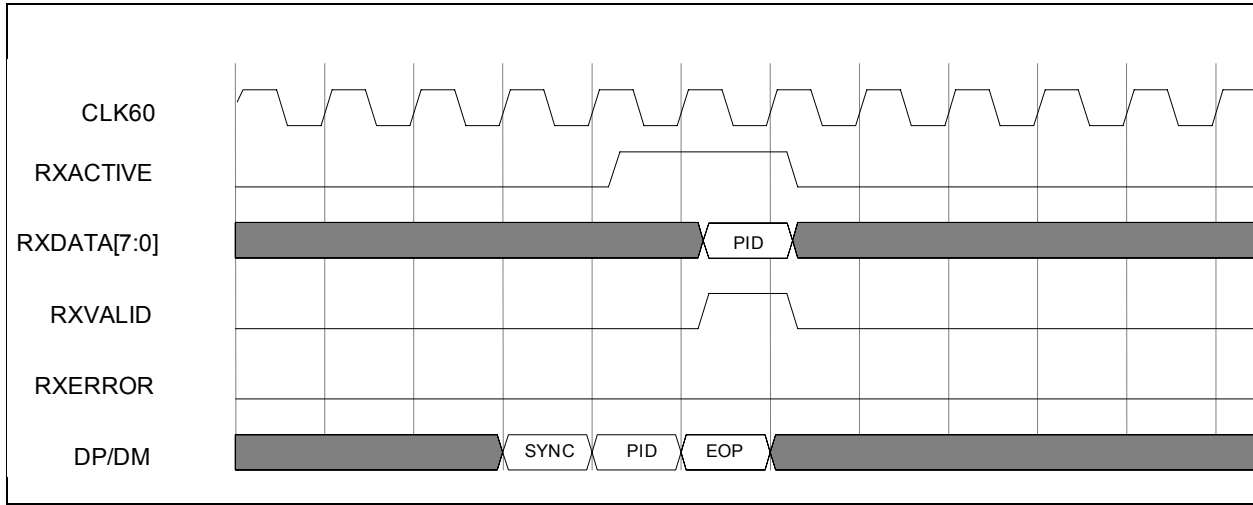
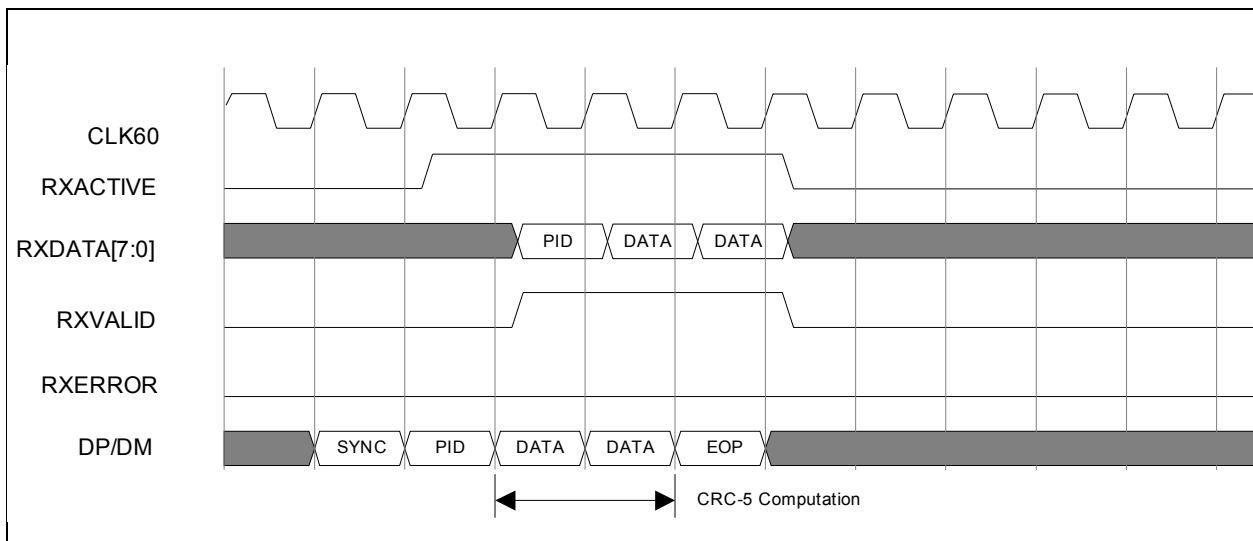
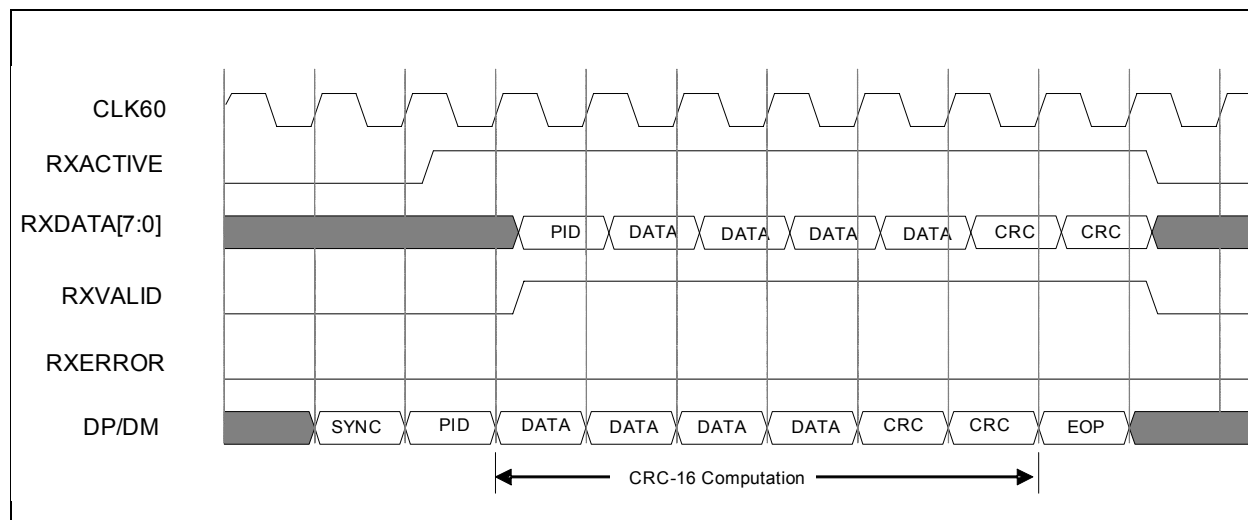

Figure 7.10 Receive Timing for Data (with CRC-16 in 8-bit mode)
Figure 7.11 Receive Timing for Setup Packet (8-bit mode)
Figure 7.12 Receive Timing for Data Packet with CRC-16 (8-bit mode)
- Figure 7.10 shows the timing relationship between the received data (DP/DM) , RXVALID, RXACTIVE, RXERROR and RXDATA signals.
Note 7.2 Figure 7.10, Figure 7.11 and Figure 7.12 are timing examples of a HS/FS Macrocell when it is in HS mode. When a HS/FS Macrocell is in FS Mode (8-bit mode) there are approximately 40 CLK60 cycles every byte time. The Receive State Machine assumes that the SIE captures the data on the RXDATA bus if RXACTIVE and RXVALID are asserted. In FS mode, RXVALID will only be asserted for one CLK60 per byte time.
Note 7.3 Figure 7.10, Figure 7.11 and Figure 7.12 the SYNC pattern on DP/DM is shown as one byte long. The SYNC pattern received by a device can vary in length. These figures assume that all but the last 12 bits have been consumed by the hubs between the device and the host controller.